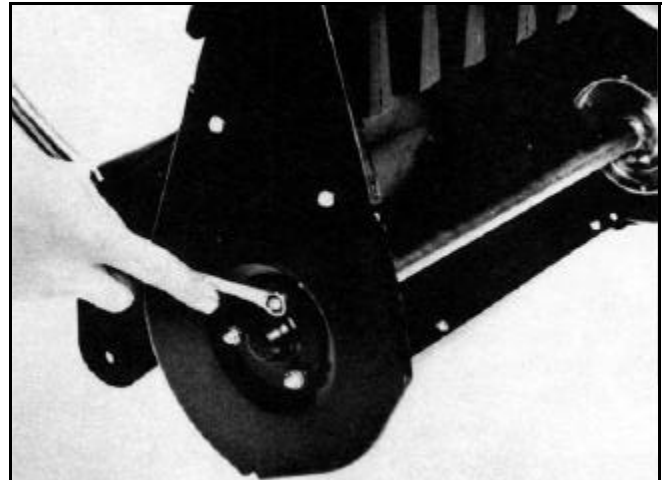

Figure 124
4. Remove the three nuts and washers securing the right hand bearing retainer (Figure 124).